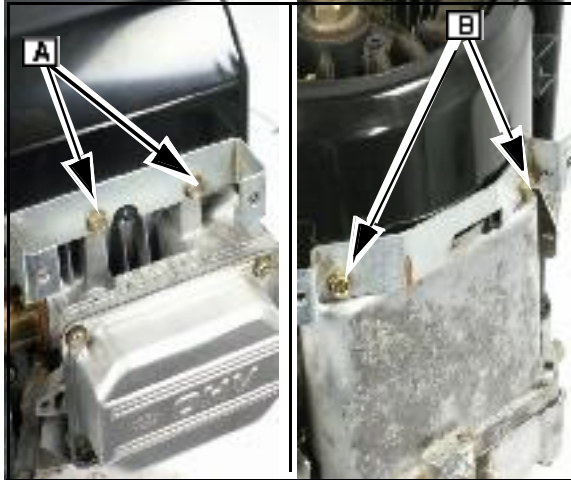

Fig. 8
6. Remove the two screws that secure the front housing bracket (A).
7. Remove the two screws that hold the rear housing mounting bracket ([B] Fig. 8).